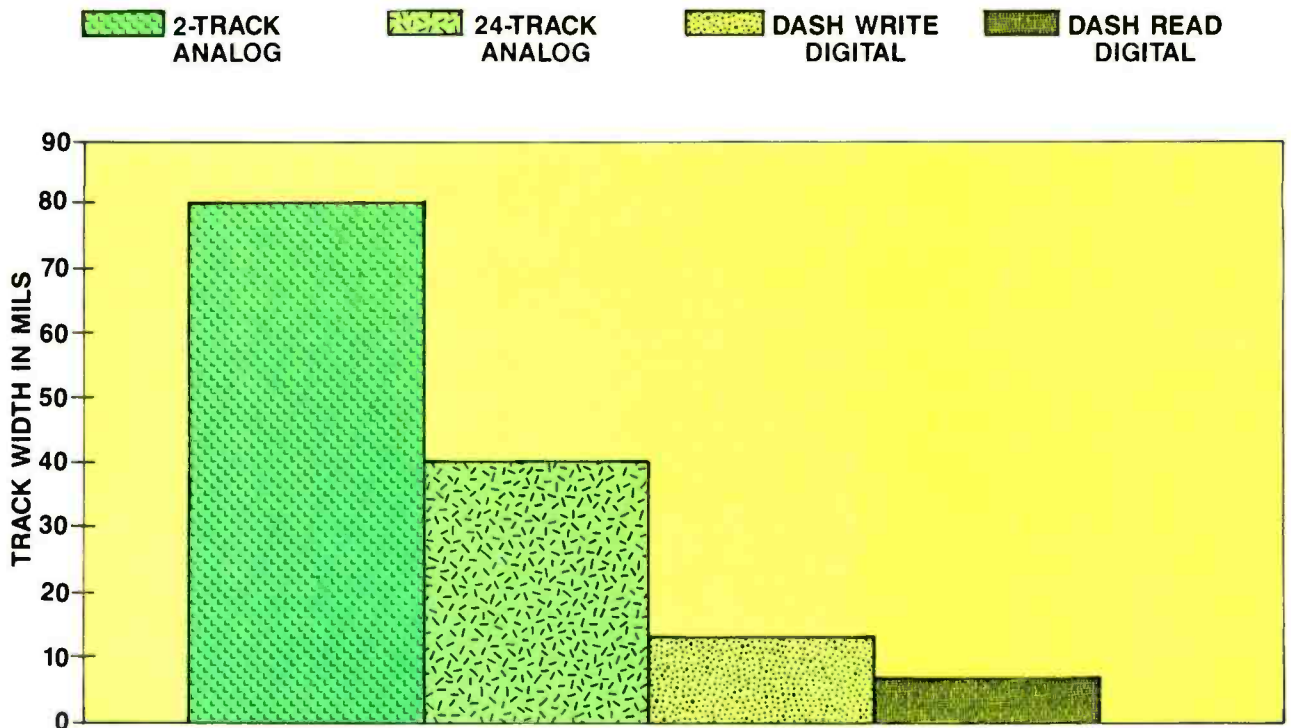

Figure 2. Track width comparison, analog vs. digital.
digital recording tape, however, track widths are much narrower. The Digital Audio Stationary Head (DASH) format, for example, uses tape with track widths on the order of only 13 mils for write operations and 6 mils for playback. The ProDigi (PD) digital recorder format has a track width of 12 mils. (Figure 2 compares typical track widths of analog and digital audio tapes.)